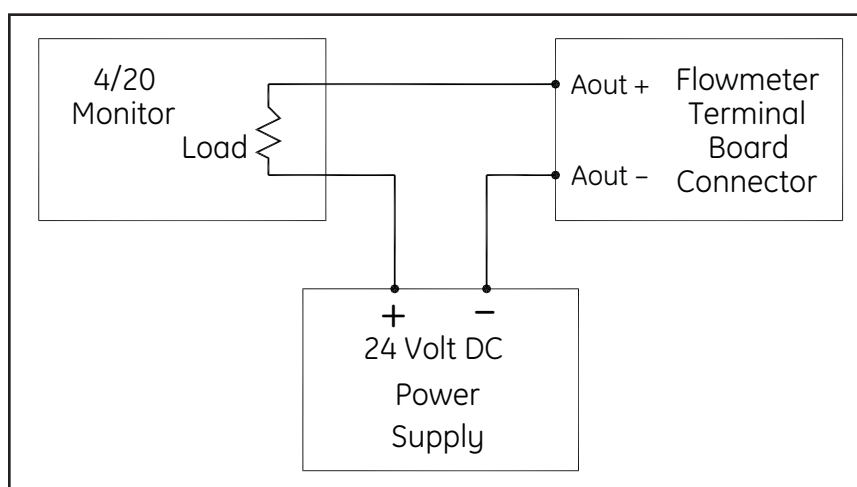
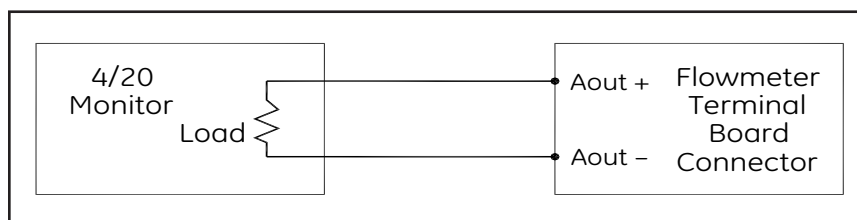

Figure 27: Analog Output Passive Wiring
Figure 28: Analog Output Active Wiring
3. Locate the 26-pin terminal block (**TB2**) shown in *Figure 30 on page 28*, and wire the I/O terminal as indicated on the label inside the wiring access cover (see *Figure 13 on page 14* and *Figure 29 on page 27*). For a wiring diagram see *Figure 27 or Figure 28* below.